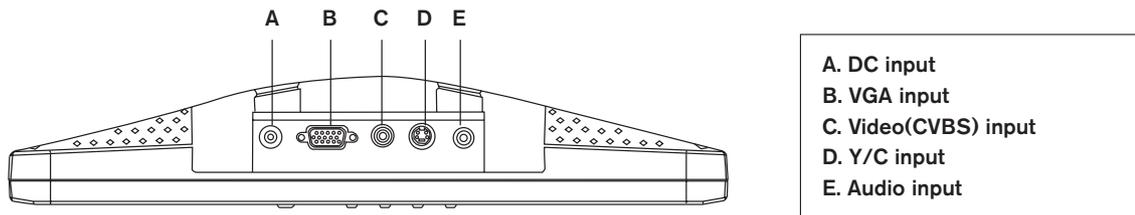
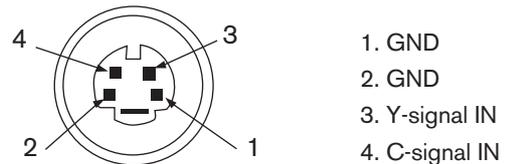
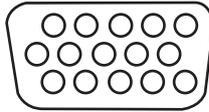

Figure 2: I/O Connectors
Figure 3: Y/C Connection Pinout
Figure 4: Analog VGA Connector
There is one (1) RCA connector located on the rear of the monitor for composite video input (please see *Figure 2* on *Page 6*). Also included is one (1) RCA to BNC adapter used to connect a BNC cable line as shown in *Photo B* and *Photo C*.
There is one (1) mini-DIN type connector for the S-video (Y/C) input (please see *Figure 2* on *Page 6* and *Figure 3* below).
There is one (1) set of mini phone jacks for the audio connector (please see *Figure 2* on *Page 6* and *Photo D* below).
There is one (1) 15-pin D-sub connector (Figure 4) for one analog VGA input. Refer to Figure 2, item B.